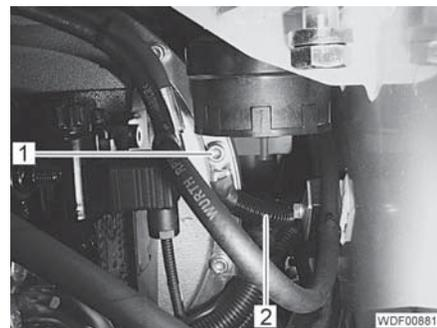

Fig. 38 Clutch bell attachment
- Screw in some of the 11 screws (Fig. 38,1) loosely in order to fix the position of the clutch bell and the engine.
- Place the grounding strips (Fig. 38,2) in position.
- Screw in and tighten the 11 screws (Fig. 38,1) for securing the clutch bell.